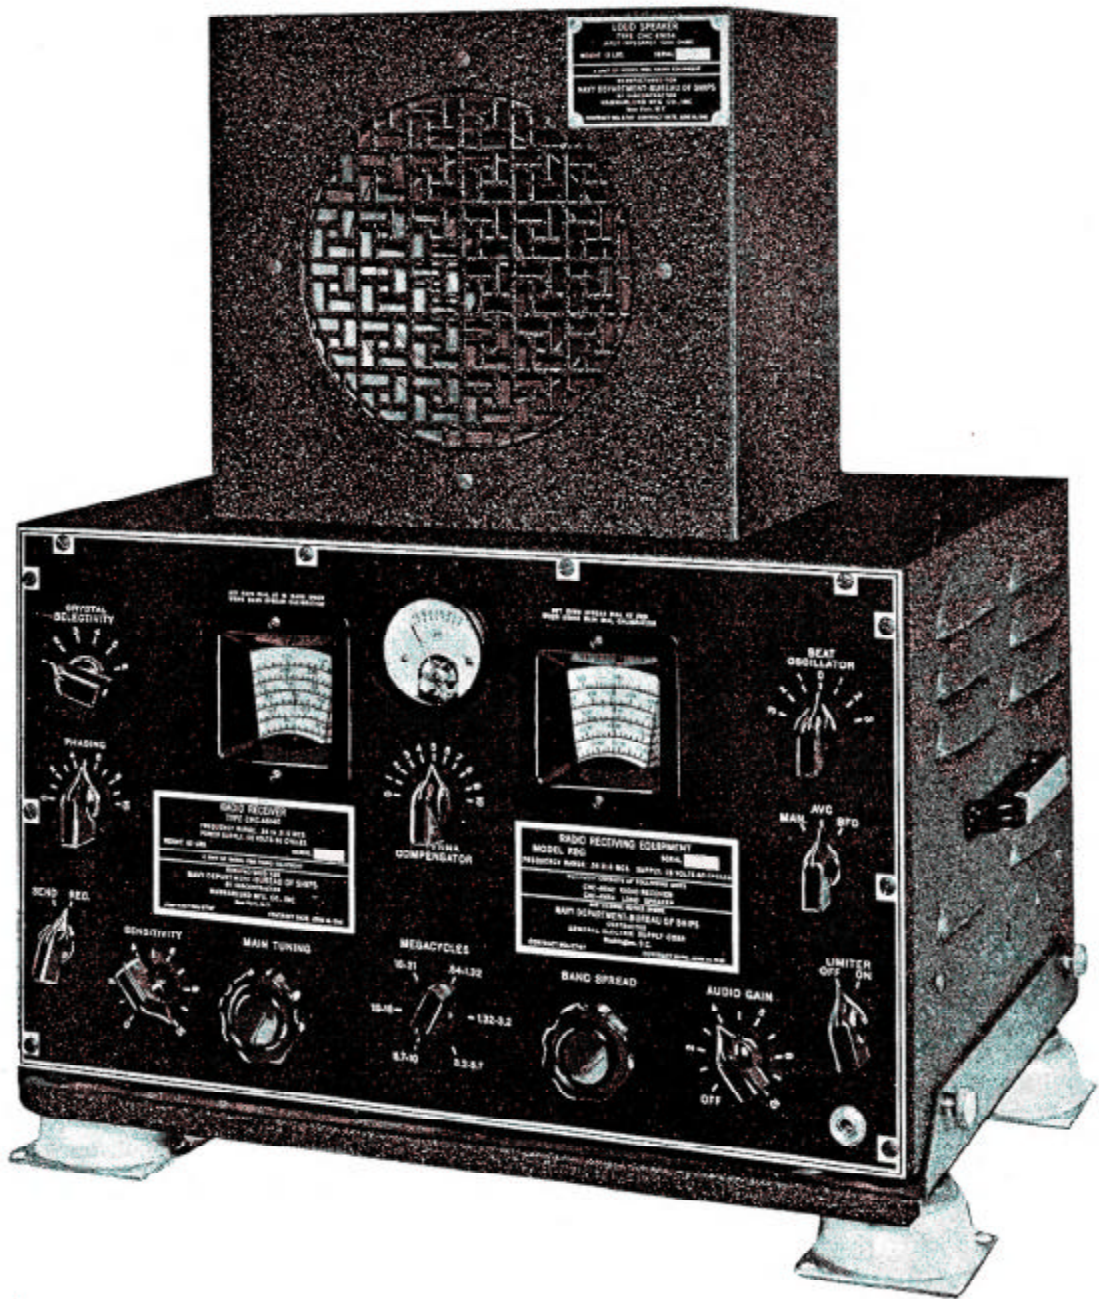

Fig. 1. Model RBG Equipment
| Fig. 1 | Model RBG Equipment | v |
- 7.201 The receiver is designed for table mounting, and includes a shock absorber equipped mounting frame with provision for securing permanently in the desired operating position. See Figs. 1 and 8.